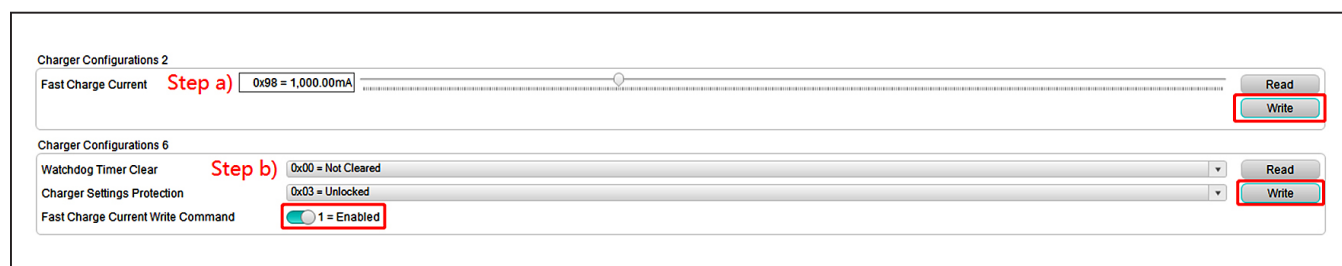

Figure 8. Write Fast-Charge Current
- 7) The 9-bit **Fast Charge Current** bitfield resides in two registers (**CHGCC_MSB** of the **CHG_CNFG_04** register and **CHGCC[7:0]** of the **CHG_CNFG_02** register). To guarantee an atomic operation, a write-enable bit **CHGCC_WR_EN** is provided in the **CHG_CNFG_06** register. Writing 1 to this bit makes the value of the **Fast Charge Current** take effect. For changing the fast-charge current, perform the following steps (Figure 8):